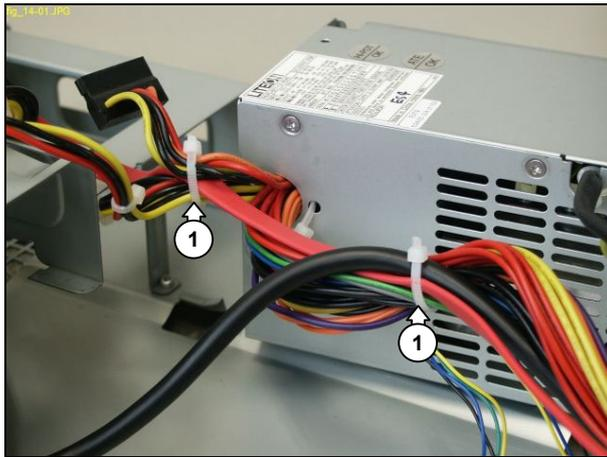

Figure 12.13-1
8. Remove cable ties (1) from the PSU cables. See Figure 12.13-1.
4. Remove cable ties (1) from the PSU cables. See Figure 12.13-1.